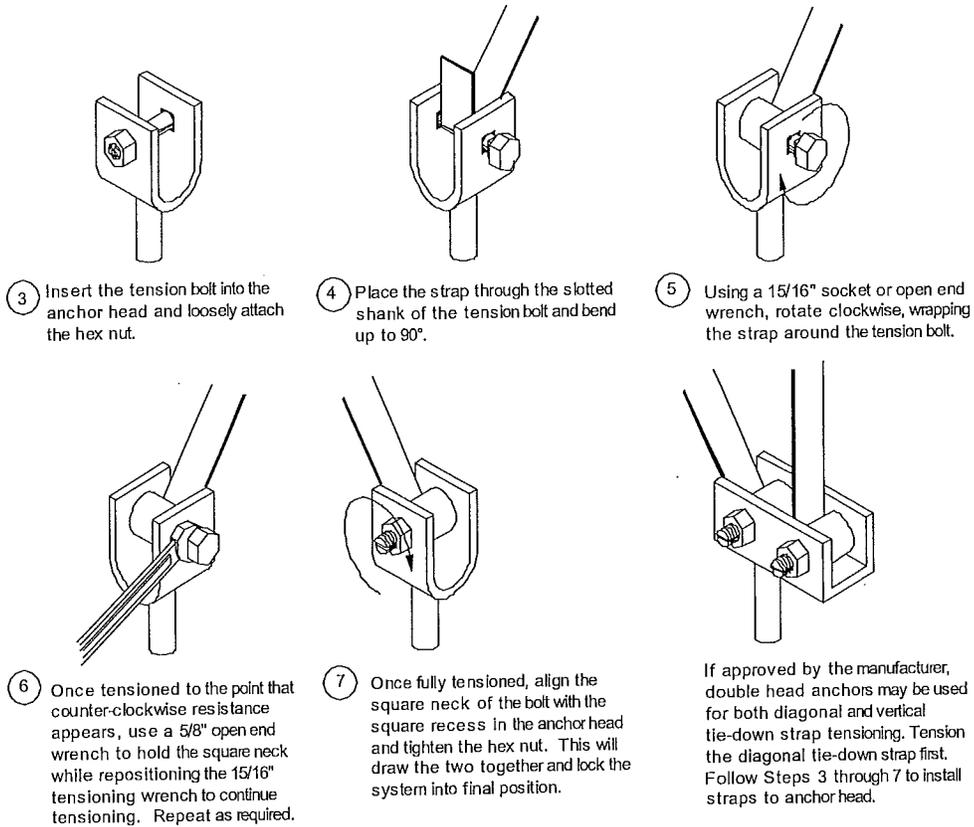

Figure 73. Procedure for connecting the strap to frame and anchor
2. **Connect strap to anchor.** Connect the other end of the strap to the split bolt in the anchor. Leave enough strap length to be able to make at least three, but no more than five complete turns around the bolt before it becomes tight (approximately 2 1/2 inches per turn or 7 1/2 to 13 inches total). Fewer than three turns and the strap may not hold onto the bolt when force is applied. Conversely, more than five turns may not fit within the U-channel of the anchor head. Follow the procedure outlined in Figure 73.